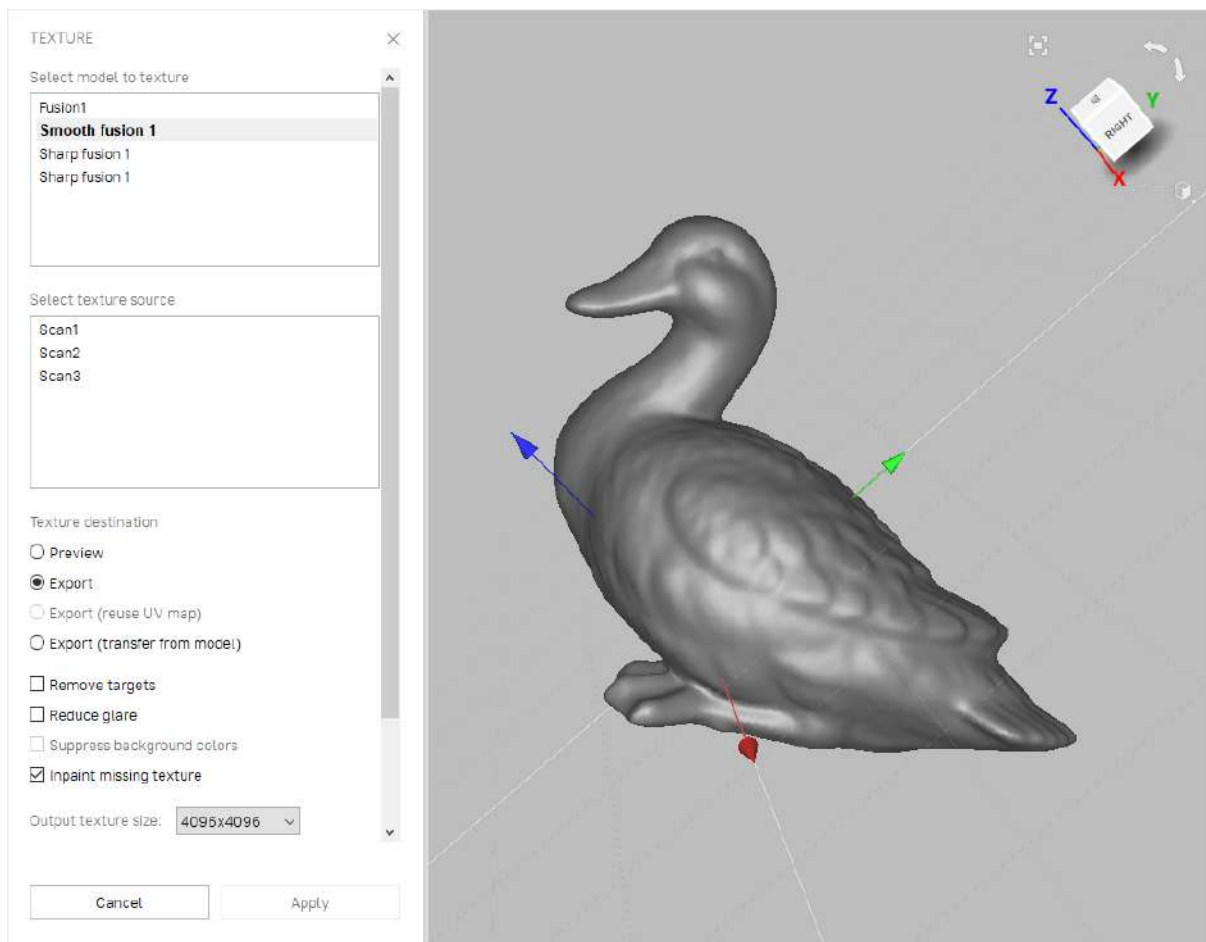

Figure 110: Choosing a texture-application method and adjusting its parameters.
2. Choose a model from the first list (see Figure 110); Artec Studio will apply the textures to this model.